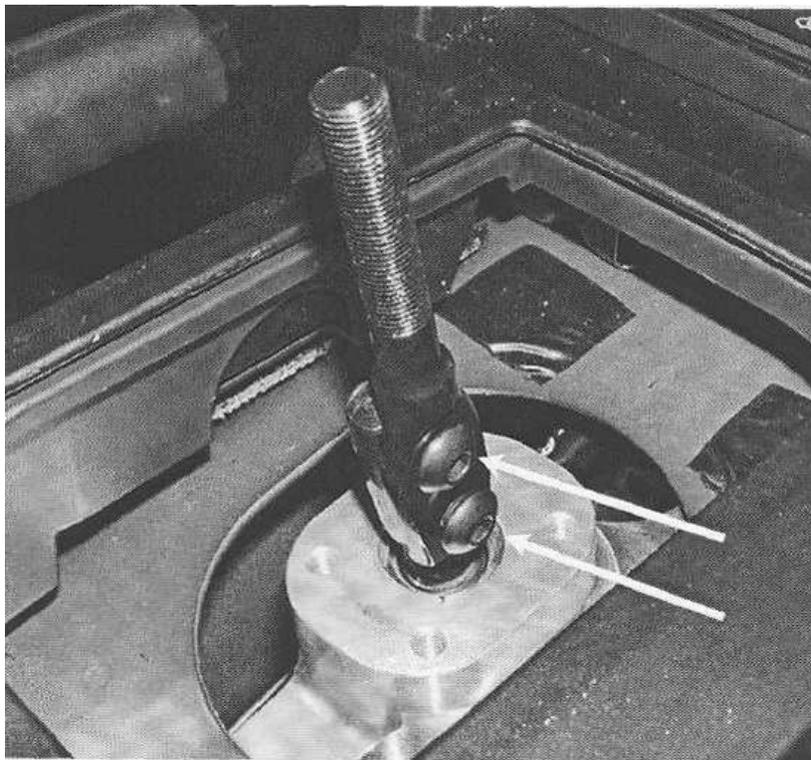

Figure 17
6. From inside the car, attach the ROUSH upper stick to the stick bottom with the two (2) button head socket bolts and star tooth lock washers supplied (Refer to Figure 17). Important: Be sure that serrations on upper stick engage serrations on stick bottom. Using a 7/32" hex key wrench, torque bolts 35 Nm (25 Ib-ft).